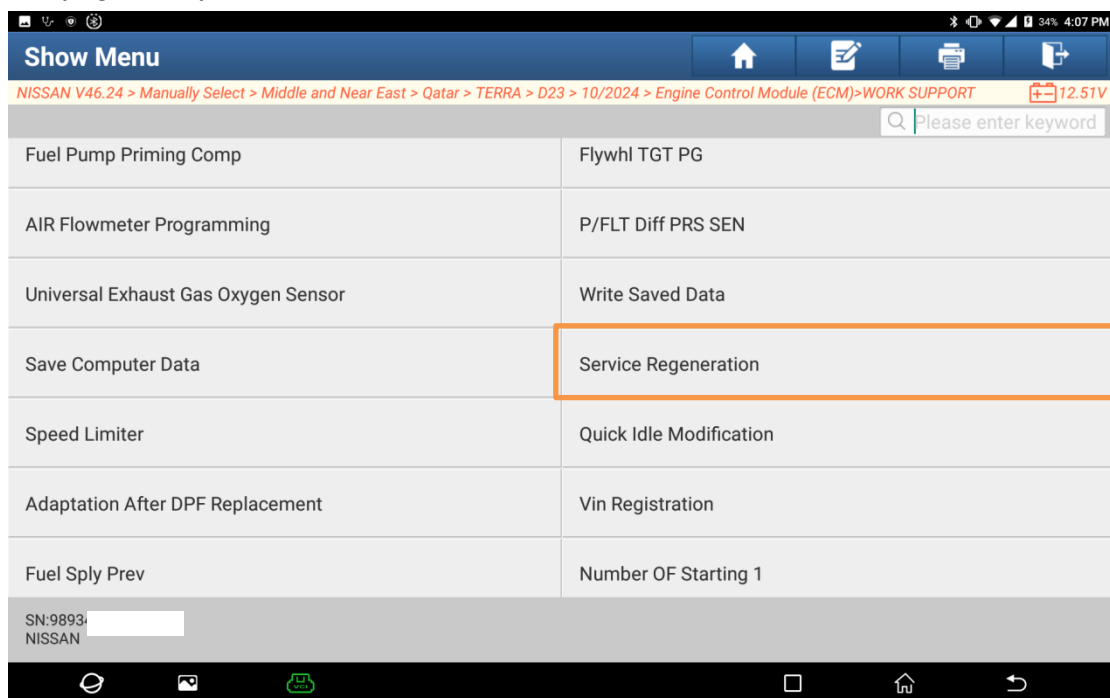

Figure 11
7. On the [WORK SUPPORT] menu interface, click [Service Regeneration] (Figure 11).